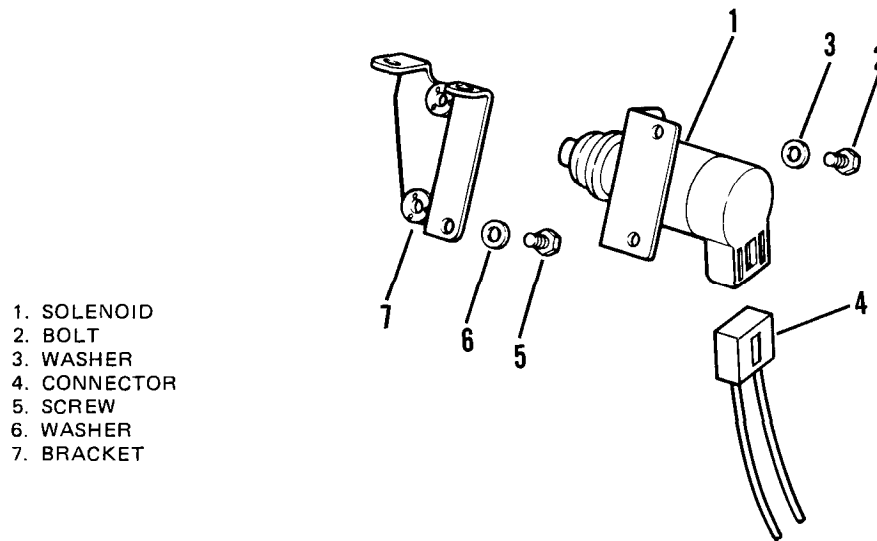

Figure 4-27. Fuel Cutoff Solenoid.
- (2) Disconnect connector (4, Figure 4-27) from solenoid (1). Push in to release the retainer clip on the connector.